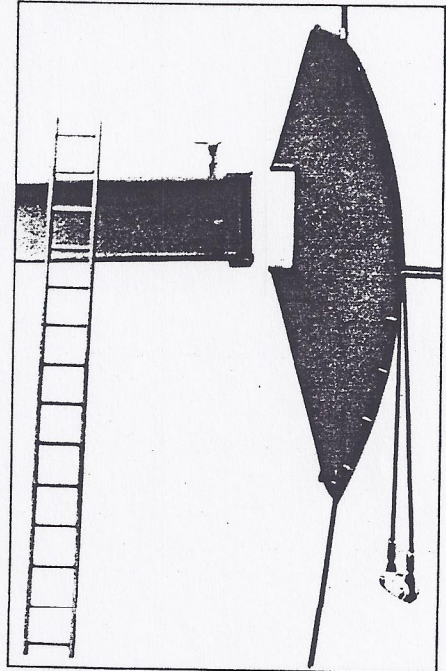

Figure 21
- d. Attach lifting sling to the top side holes of horsehead and raise until it can be aligned with the mounting holes in the front of the walking beam. Be sure all cosmoline, dirt, paint and burrs are removed from holes. See illustration in Figure 21.